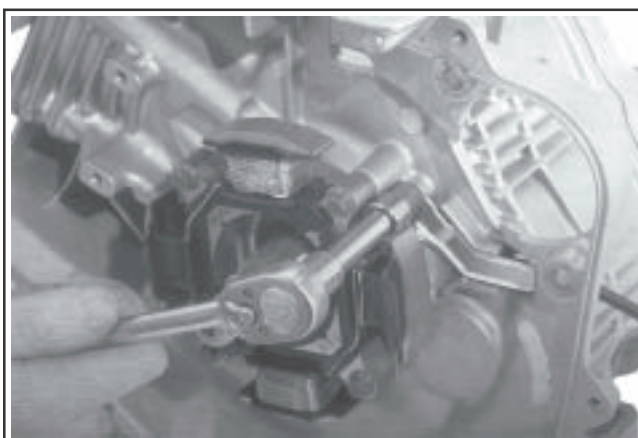

Figure 11-56. Installing Shield.
3. Install the protective wire shield over the channel and secure in place with the M6x1.0 screw. **Torque screw to 10 N·m (88.5 in. lb.).** See Figure 11-56.